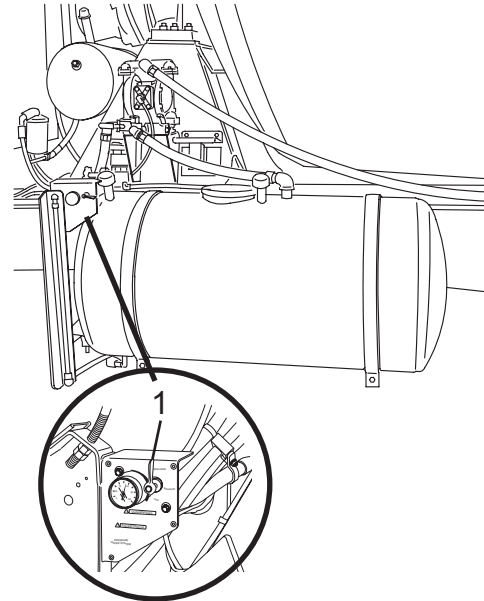

Figure 86
4. Turn the air pressure control valve (Figure 86, Item 1) to the PRESSURIZE position to start the pump.
To stop the pump, turn the air pressure control valve (Figure 86, Item 1) to the OFF position.